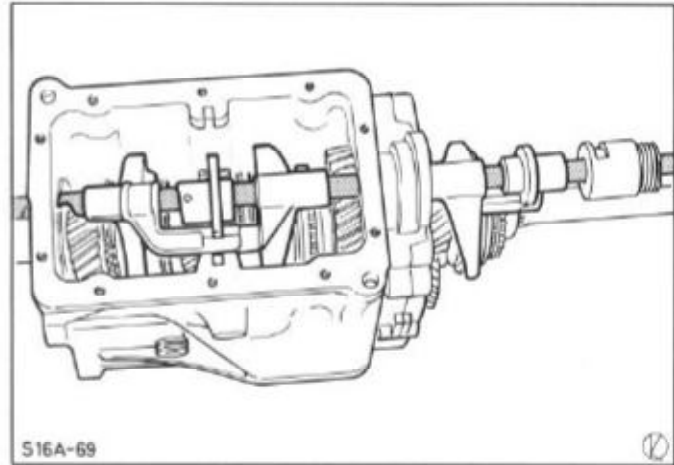

Fig.142. Insert shift rod and selector forks.
51. Install shift rod and selector forks, Fig.142. Insert selector sleeve, 5th gear selector fork, 1st/2nd gear selector fork, selector pin boss with locking plate and 3rd/4th gear selector fork one at a time, aligning them flush with the shift rod, and press shift rod into the housing. Line up selector sleeve and selector pin boss with the selector forks, as appropriate.